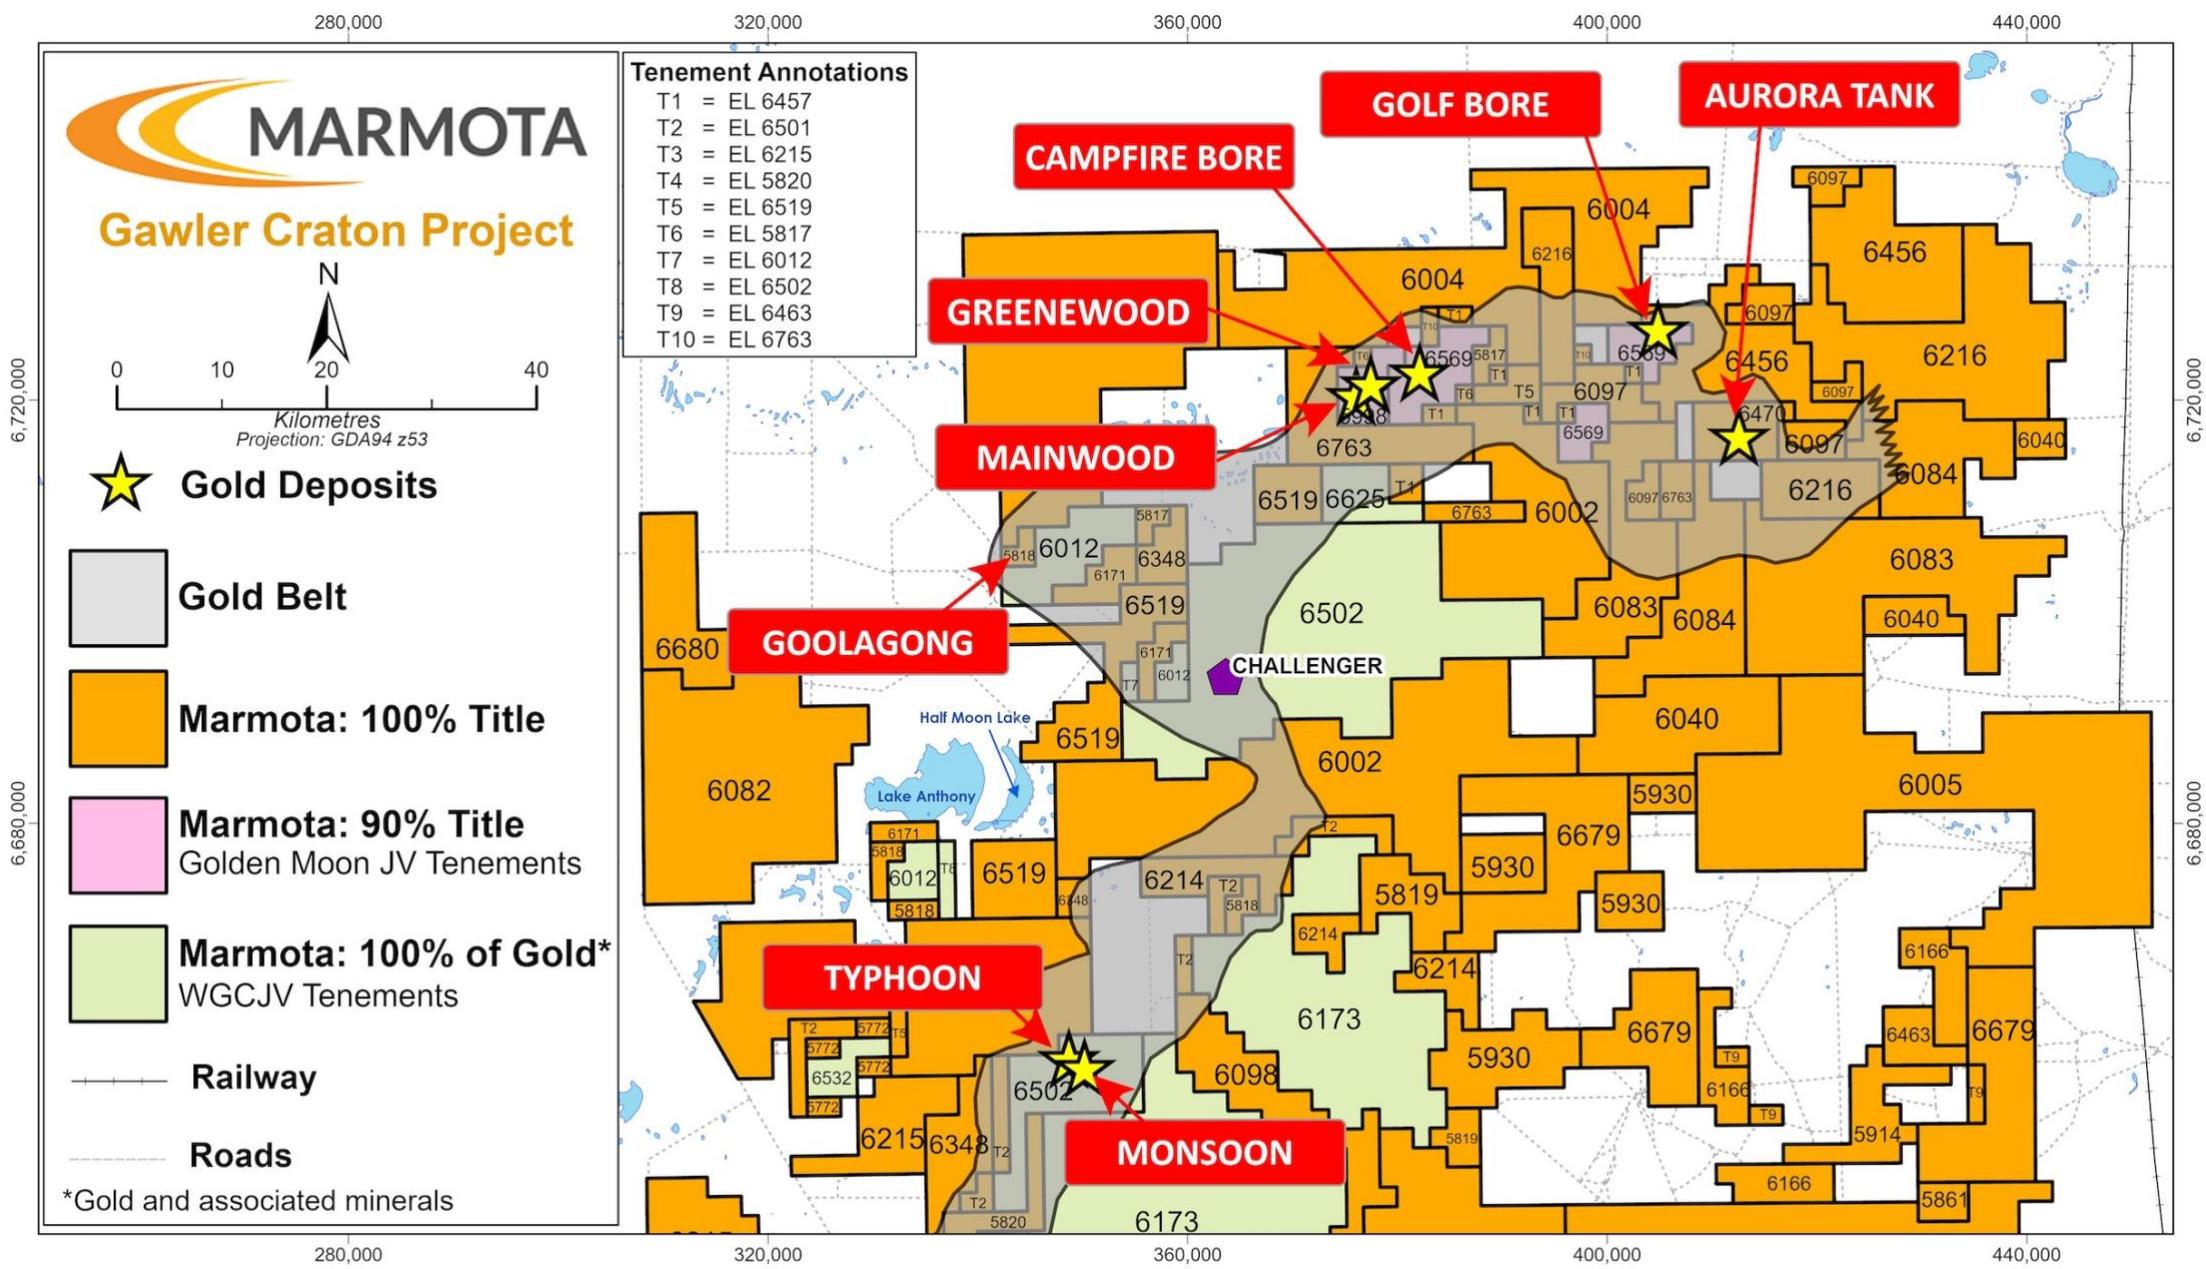

Figure 5: Location of Greenwood, the Gawler Gold Belt and Marmota’s gold deposits
- The Challenger Mine (which produced over a million ounces of gold: see Fig. 5)
- Monsoon and Typhoon (see Fig. 5)